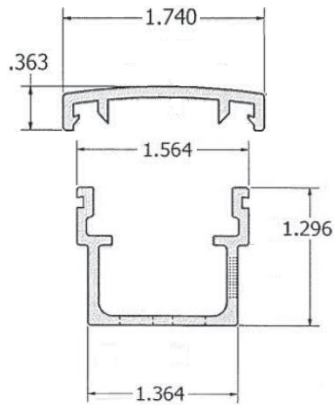

Figure 1 – Top Rail
3.4.1.1. The top rail is an extruded aluminum rail with internal longitudinal ribs, dimensions of 1.75 inches wide by 1.44 inches tall. See Figure 1. A PVC rail insert is used as a baluster retainer.